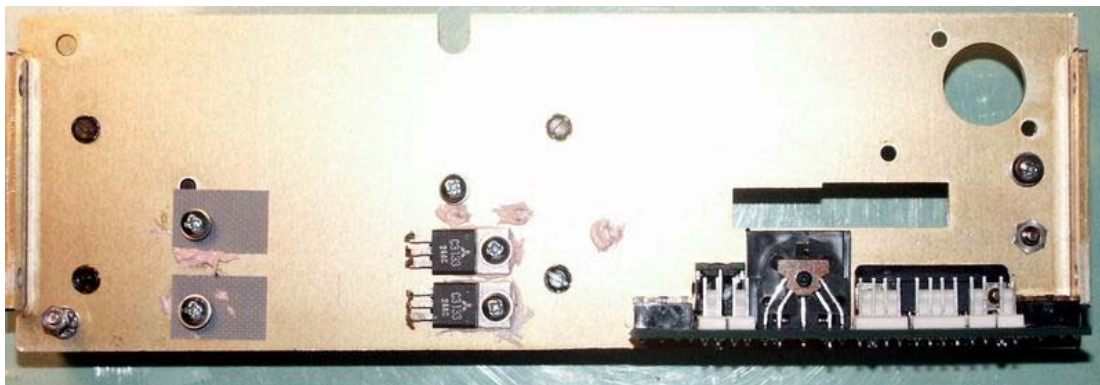

Figure 3: Rear Chassis with Connector Subassembly Attached
13. Put the screws and hardware back into the transistor mounting holes so they won't get lost! (See figure 3 below). Note that the *Connector Subassembly* board does not need to be removed.